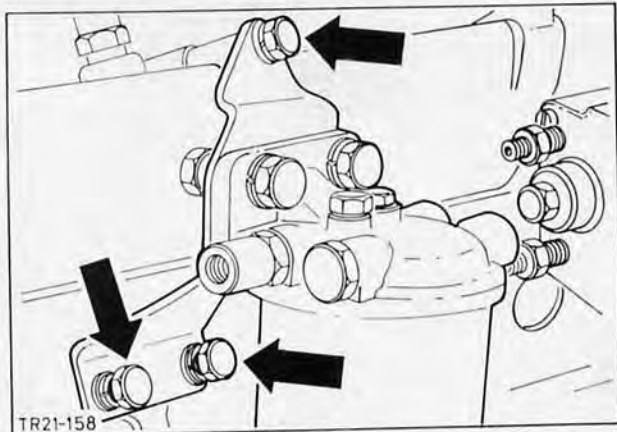

Fig. 43. Remove fuel filter with bracket
5. Remove fuel filter complete with bracket (3 bolts), Fig. 43.